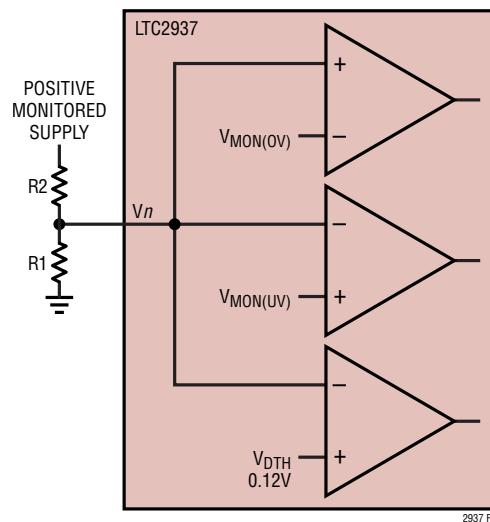

Figure 11. Configuring Custom Positive Thresholds (Operating in the Positive Adjustable Range)
For positive voltage sensing applications, use Figure 11 as a configuration reference. For example, assume a positive input voltage of +15V applied to the top of R2, with a desired UV threshold at 14.3V ($V_{\text{TH}(UV)}$). Use the V_{RANGE} command to select the Positive Adjustable Range. When the input voltage is 14.3V we choose the V_n input to be $V_{\text{MON}(UV)} = 1.0V$ (somewhat arbitrarily, for numerical simplicity). $V_{\text{MON}(UV)} = 1.0V$ is a code of $\text{uv_threshold}_n = 0xCD$ (205). The resistor ratio, $R2/R1$ is easily determined by the equation:
After selecting external resistors, configure the OV thresholds. Following the positive adjustable example of Figure 11, the monitor comparator OV threshold is determined from:
Applying values from the example using Figure 11, the discharge threshold is: